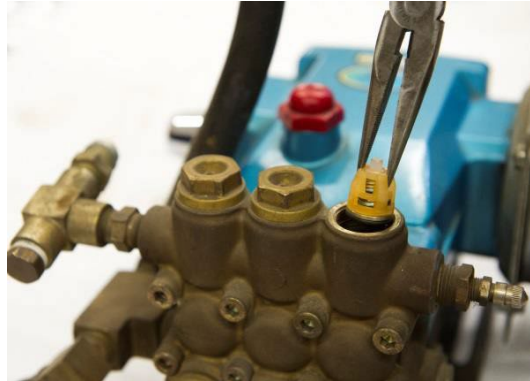

Figure 15: Removing the valve assemblies
3. Using a needle-nose pliers, remove the valve assembly from the cavity (see Figure 15).